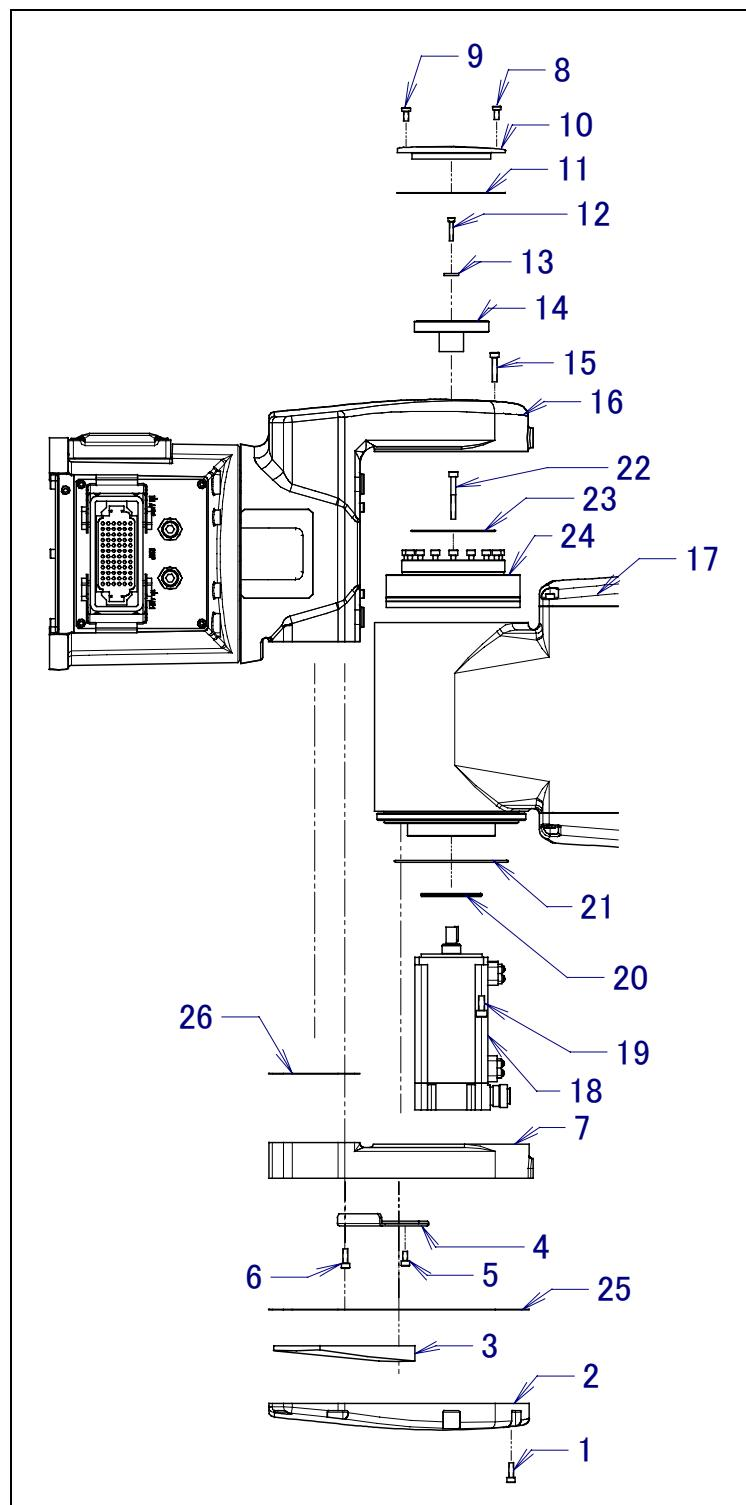

Fig. 4.5(a) Replacing J2-axis reducer
- 5 Remove bolt (5) and clamp (4).
- 7 Remove bolt (6) and support (7). When severe dust/liquid protection specification is specified, remove packing (26), too.
- 8 Remove seal bolt (8) and (9), cover S (10) and packing (11). In this time, pay attention that there is a possibility that grease goes out.
- 9 Remove seal bolt (12), washer (13) and wave generator (14).
- 10 Remove seal bolt (19), motor (18) and O-ring (20), (21).
- 11 Remove bolt/seal bolt (15) and J2 arm (17) to which reducer (24) is attached.
- 12 Remove bolt (22) and remove reducer (24) from J2 arm (17).
- 14 Attach new reducer to the J2 arm (17) by using bolt/seal bolt (22). When severe dust/liquid protection specification of LR Mate 200iC, LR Mate 200iC/5L,5H or LR Mate 200iC/5LC,5WP,5C is specified, spread the sealant on the reducer referring to Fig.4.5 (b).